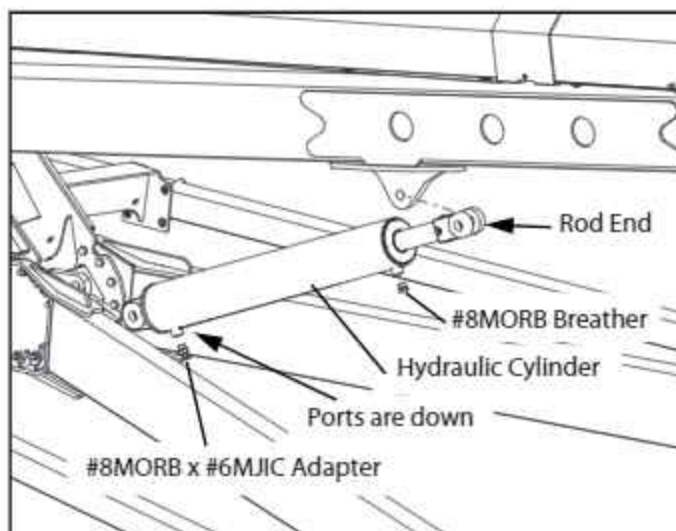

FIG. 3-46. Lift Cylinder Installation
1. Install the #8MORB x #6MJIC fitting in the base end port of the hydraulic cylinder. See Fig. 3-46.
3. Mount the hydraulic cylinder between the Lift Cross and the Ladder with the rod end connected to the Ladder. See Fig. 3-46. It may be necessary to lift the auger tube slightly to make room for the cylinder. Make sure the ports are down.